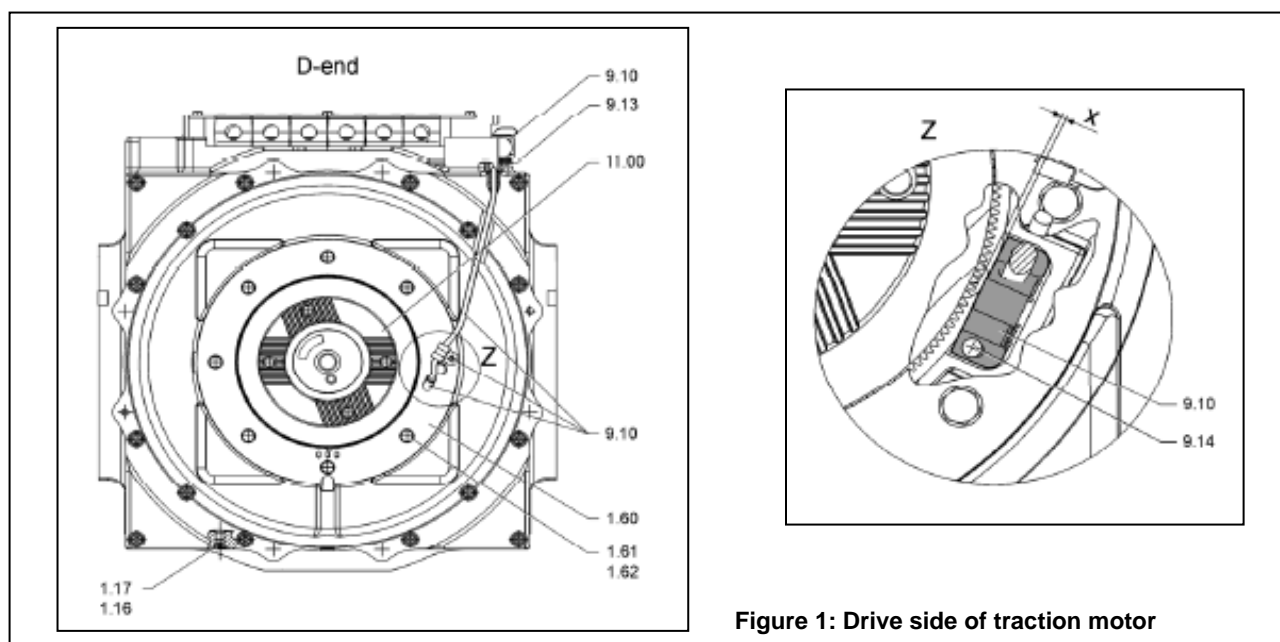

Figure 1: Drive side of traction motor
STEP 2 IN DETAIL: To remove speed sensor (figure 1)
STEP 4 IN DETAIL: To fit speed sensor (figure 1)